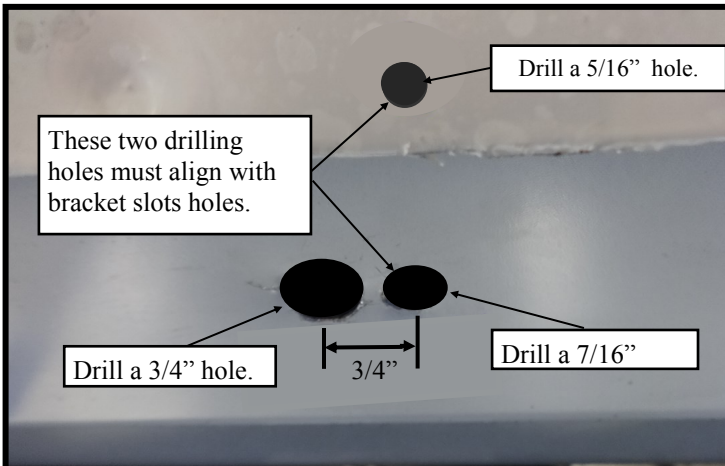

Figure 5
- At the inner-rocker panel. Make another center mark at 3/4" from the first center mark were the bracket rear flange will sit. (be sure to mark it in a flat area) **Figures 5 and 6.**
- Using the center drill bit to start. Drill holes in the first two marks from step 5. Drill at the outer-rocker panel 5/16" hole and 7/16" at the inner-rocker panel. **Figures 5 and 6.**
**Pay special attention to the holes drilling locations. Figures 5 and 6. Follow instructions carefully. Not doing it may cause problems for proper installation. Use some paint primer at the drilling holes to avoid rust in the future.**